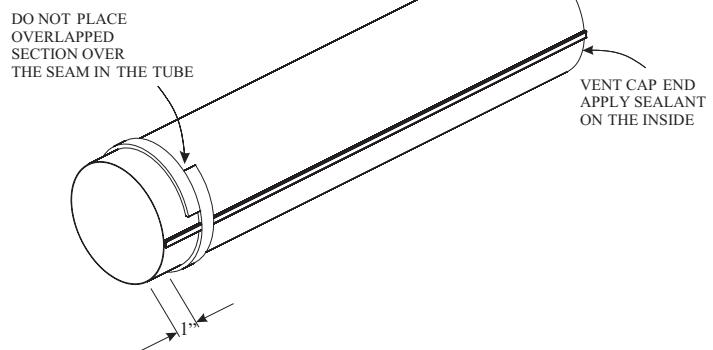

Figure 58
12. Seal the 4" (102mm) diameter flue outlet tube. Follow instructions and diagram. **See Figure 58.**
If the air inlet and flue outlet tubes are to be connected directly to the unit (no rigid venting system is being used), then the gasket provided must be used to seal the 4" (102mm) flue outlet tube. Peel the paper off the self-adhesive gasket and then wrap it around the end of the tube (if tube was cut, it is recommended to use cut end) as shown in **Figure 58**. Pull the gasket tight at all times while wrapping it around tube. The gasket ends should align, to form a complete seal. The overlapped section should NOT come in contact with the seam in the tube. Apply high temperature sealant to the opposite end of the tube (on the inside of the tube). The end with the gasket will attach to the back of the unit. Continue with Step 13.